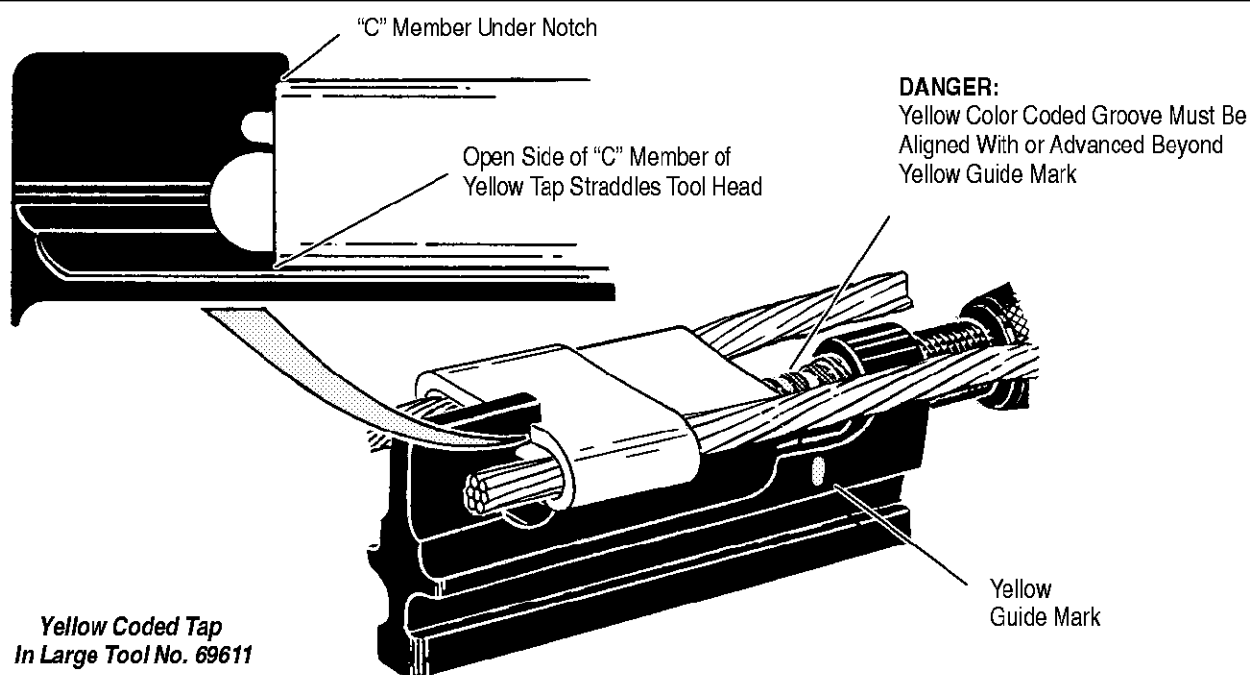

Figure 22
- YELLOW coded taps or stirrups must be positioned under notch in large tool head as shown in Figure 22.
When mounting the large tool No. 69611, observe the position of the yellow band on the coupling after it is tightened against the wedge. **THE YELLOW BAND MUST BE ALIGNED WITH OR ADVANCED BEYOND THE YELLOW GUIDE MARK ON THE TOOL HEAD BEFORE FIRING.** See Figure 22. If the wedge cannot be inserted between the wires far enough to attain proper alignment of the yellow band and guide mark, there is a possibility that the wrong wire, tap, or stirrup combinations are being used. Refer to the troubleshooting table in Figure 25.
When removing a yellow coded tap or stirrup, observe the position of the yellow band on coupling when it is tightened against the take-off clip. The yellow band must be aligned with or advanced beyond the yellow guide mark on head before firing the tool. See Figure 22.